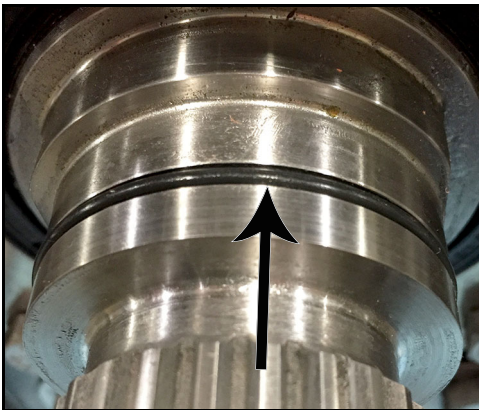

Figure 123 - O-ring installed
- 17. Figure 123 shows the O-ring installed in the shaft groove.